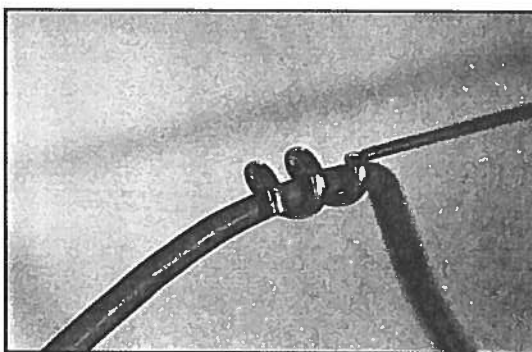

Fig. 08 Power cord
4. Wind the power cord through the curl on the cable arm. See Fig. 08. (Sand away from cord at all times.)